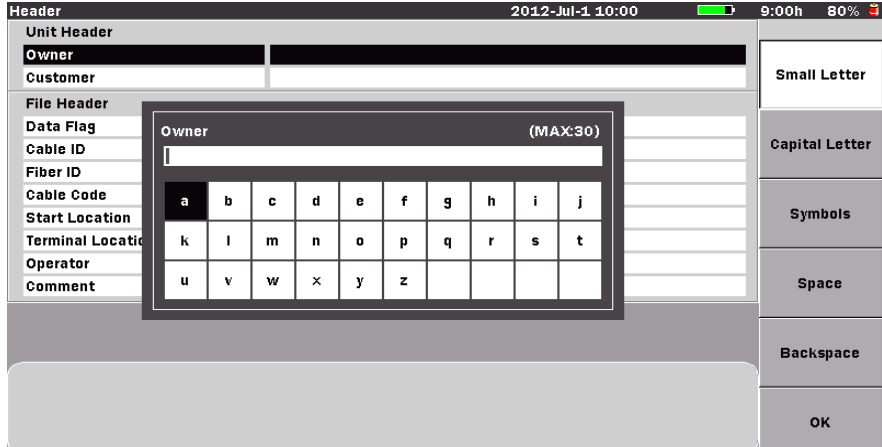

Figure 4-43: Text Entry dialog box
4. Use the **Up** and **Down Arrow keys** (or the **Rotary knob**) to highlight the desired field and then press the **Enter key**. The Text Entry dialog box appears (see Figure 4-43). If no USB keyboard is connected, follow the instructions from step 5. to enter the name using the front panel keys. If a USB keyboard is connected, you can modify the name directly from the keyboard. When all of the desired characters are entered, press the **Enter key** to return to the Header screen.